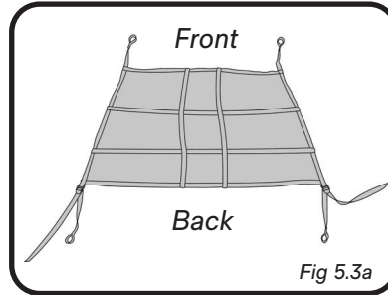

Fig 5.3a
1. Feed the non-adjustable ends (front) of the cargo net (K) between the hardtop and the roof support/roll bars. (Fig 5.3a, b)